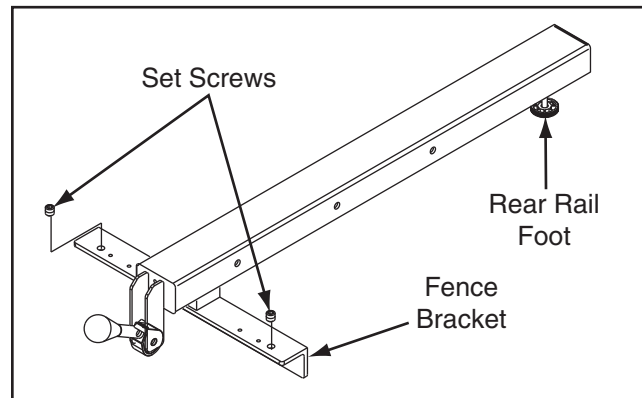

Figure 129. Fence components used to adjust fence height and squareness to table.
3. Adjust the set screws (**Figure 129**) on top of the fence bracket to ensure the fence face is 90° to the table.
Note: If the front end of the fence needs to be adjusted up or down, use the set screws from **Figure 129**; however, turn them in even increments and recheck the squareness afterwards.